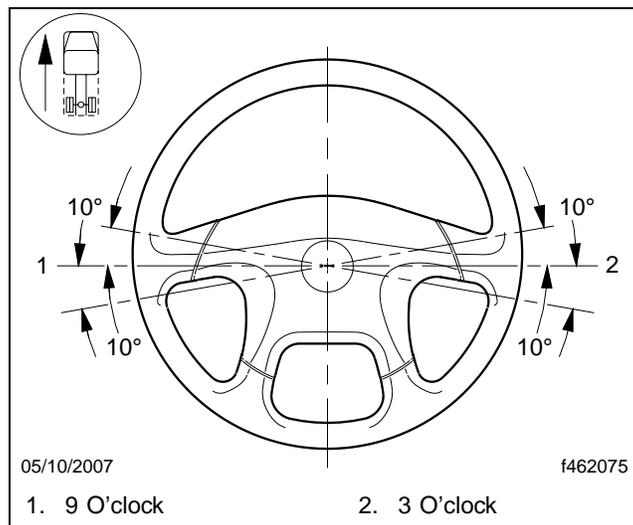

Fig. 14, Steering Wheel Centered
51. Make sure that the steering wheel is within 10 degrees of center as shown in **Fig. 14**. If it is not, remove and center the steering wheel.